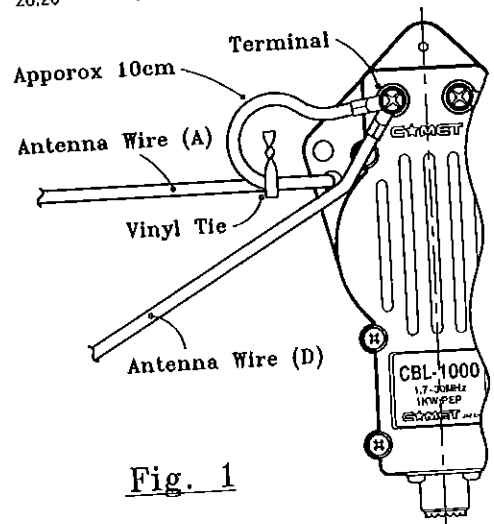

Fig. 1
Pass the (A) Wire through the Hole it firmly with vinyl tie. Then, assemble both (A), (D) Wires with terminals to front & back side of the balun, with bolt nut, as shown on Fig. 1.